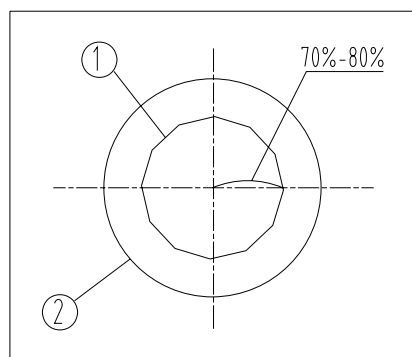

Fig.14
2. Adjust condenser adjustment knob③ in clockwise direction, raise the condenser to the top, let the illumination light fills the field of view. As the specimen contrast is usually low, it is advised to adjust the condenser aperture diaphragm to be 70%-80% of the N.A. of objective. Rotate the aperture diaphragm adjusting ring ④, align the arrow with the magnification position on the diaphragm seat⑤. The eyepiece can be taken off when it's necessary to observe from the tube. Adjust the aperture diaphragm adjusting ring④ until see the figure as shown in Fig. 14, to adjust the proportion (see Fig. 14&15, ① is the image of aperture diaphragm, ② is the edge of objective).